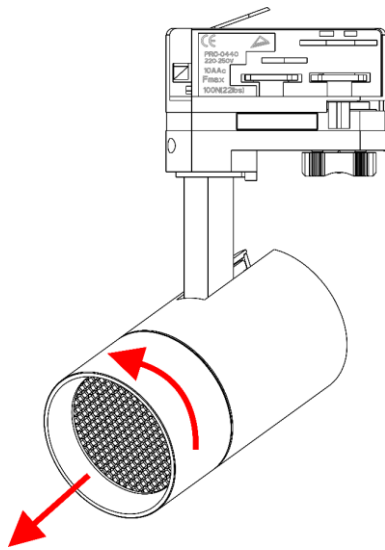

Fig. 04
- 01) Turn the **honeycomb filter section (07)** counter-clockwise and remove it from the **track head (05)** (see Fig. 04).